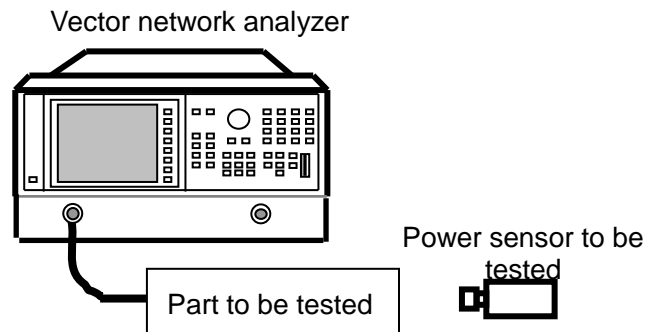

Fig. 8.8 Sensor SWR Test Block Diagram
- 1) Connect the device as shown in Fig. 8.8, power on and reset the instrument, and warm it up for at least 30 min.